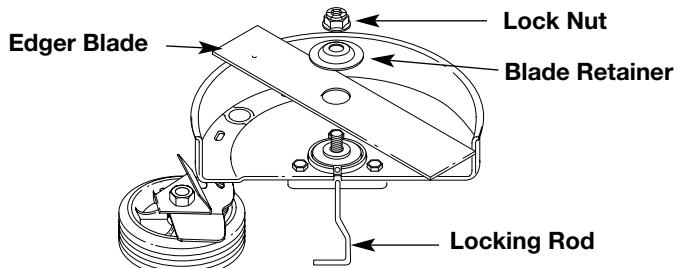
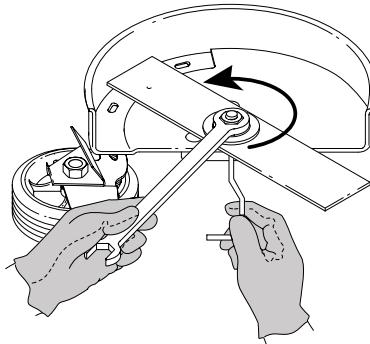

Fig. 28
Fig. 29
3. Install the new blade, blade retainer, and nut (Fig. 28). Insert the locking rod through the slot into the output shaft hole. Make sure that the blade stays flat and centered against the output shaft while tightening the lock nut **countrerclockwise** (Fig. 29).
If you do not have a torque wrench, hold the locking rod in the slot. Rotate the nut **countrerclockwise** with a 5/8 inch closed-ended or socket wrench, until the nut presses against the washer and the blade is snug. Make sure the blade assembly is installed correctly, then rotate the nut an additional **1/4-1/2 turn** (Fig. 29).